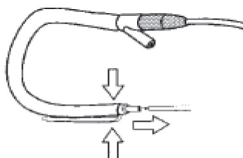

Fig. 4-6C
4. Grasp the brass barb of the loop cover and remove the feeder tube. (See Figure 4-6C)